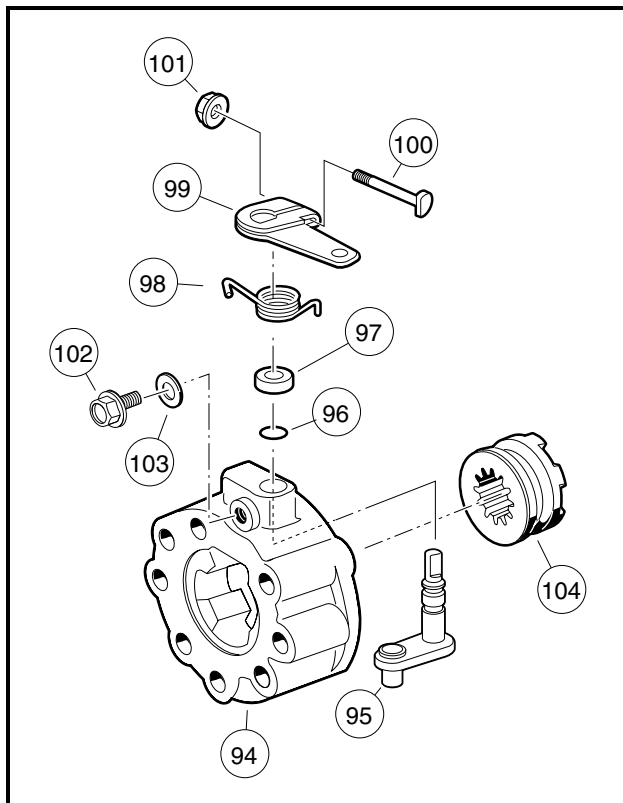

Figure 7-13 Differential Lock Housing Disassembly
1. Rotate the arm (99) and remove the differential lock cog (104) (**Figure 7-13, Page 7-7**).
2. Loosen, but do not remove, the differential lock arm retaining nut (101) and remove the arm (99) and spring (98) from the differential lock shaft (95).
3. Remove the spacer (97) from the differential lock shaft (95).
4. Remove the shaft retaining screw (102) and washer (103) from the differential lock housing.
5. Press the shaft (95) toward the center of the differential lock housing and remove the shaft from the housing (94).